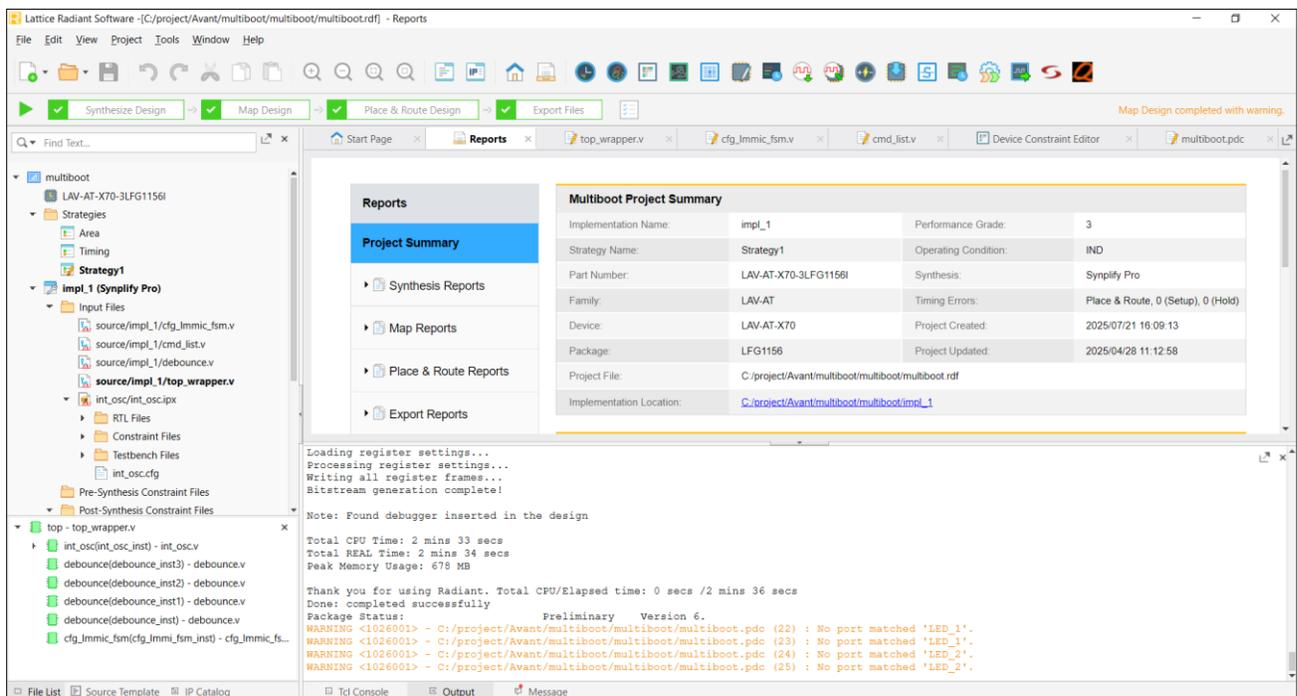

Figure 6.3. Generated Bitstream Log
3. Click **Export Files** to generate the bit file (Figure 6.3). View the log message in the Export Reports folder for the generated bitstream. Once the compilation is successful, the generated bit file is in the project implementation folder, for example, multiboot\impl\_1\multiboot\_impl\_1.bit. Repeat this step for others design implementation if you need to recompile the design.